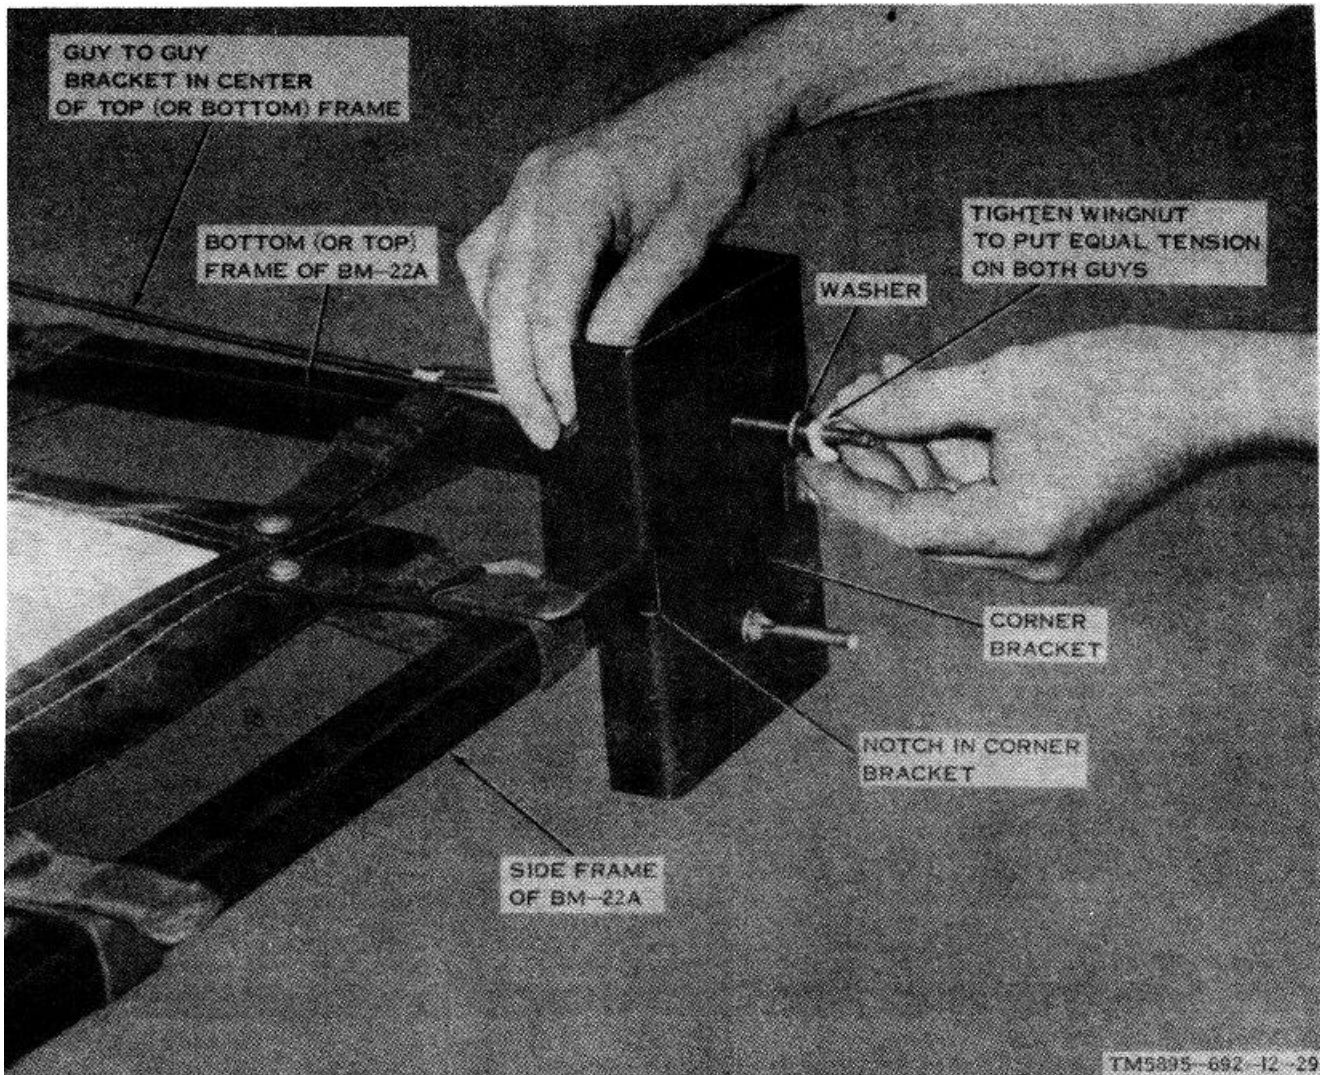

Figure 3-14. Mounting corner bracket on BM-22A framework for attachment to top (or bottom) guy bracket of BM-22A kit.
(c) Mount the side guy brackets (fig. 3-12) on each side of the BM-22A frame. Tighten the wingnuts at the corner brackets to tension the guy wires equally to the side guy bracket (fig. 3-14).
(2) Remove the brackets on the sides of the framework. Securely tighten all the nuts and bolts on the side brackets.
(3) On the top and bottom corner brackets, loosen the wingnuts of the wire guys that go to the brackets on the top and bottom of the framework (fig. 3-14), until the corner bracket can be removed from the corner of the framework. Tighten the wingnuts so that they hold the corner bracket up against the guy wire.